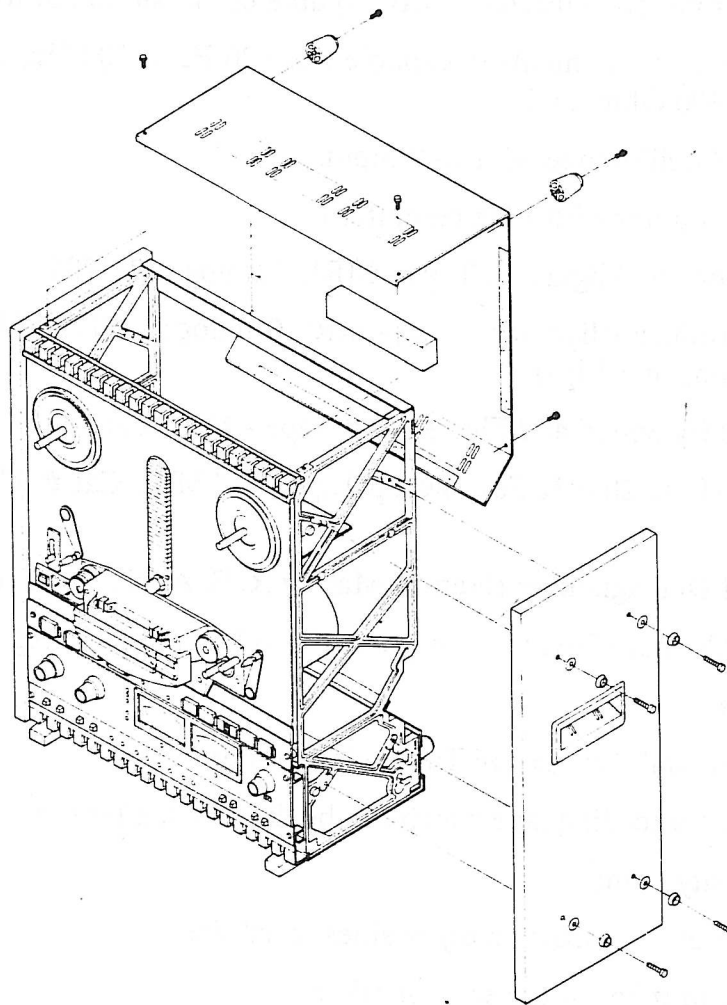

Figure 1 Rear Panel Removal
2. Remove the Rear Cover (refer to Figure 1).